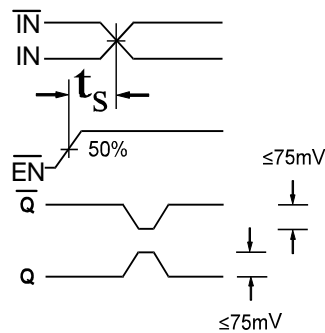

Figure 1. Setup Time
- The setup time is the minimum time that EN must be asserted prior to the next transition of IN/ \bar{IN} to prevent an output response greater than $\pm 75\text{mV}$ to that IN/ \bar{IN} transition (see Figure 1).